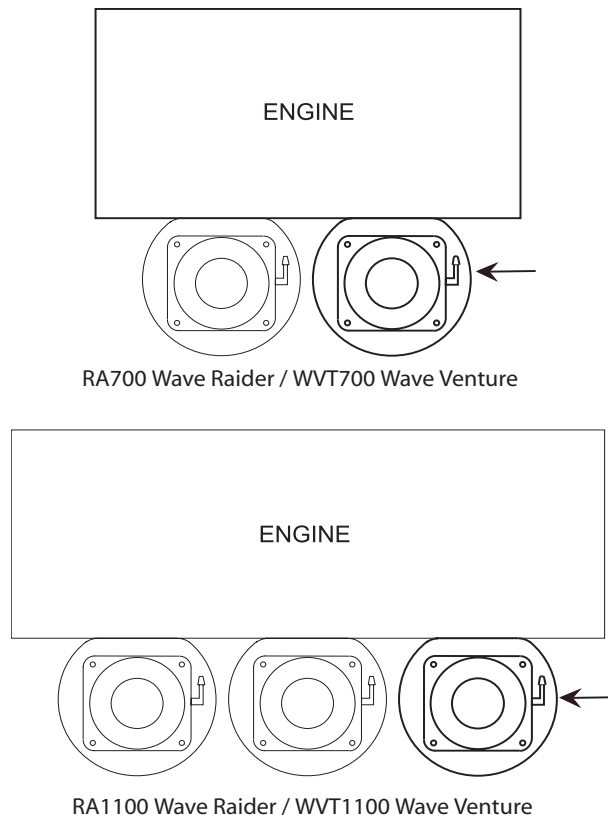

Fig. 1
5. Install the plastic hose fitting into the K&N Adapter base plate with a small amount of thread-locking compound. (Fig. 1)